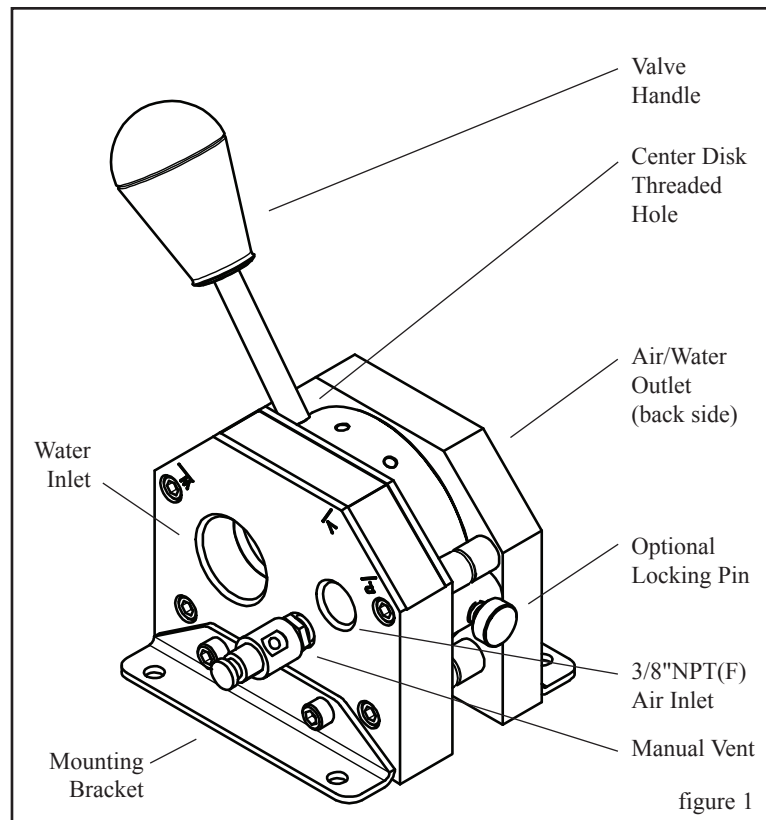

figure 1
1. Apply thread locking compound (Loctite 638 or equivalent) to threaded end of valve handle. Screw valve handle into center disk threaded hole. See figure 1.
3. Thread manual vent into the hole as shown in figure 1. (No additional thread sealant is required.)